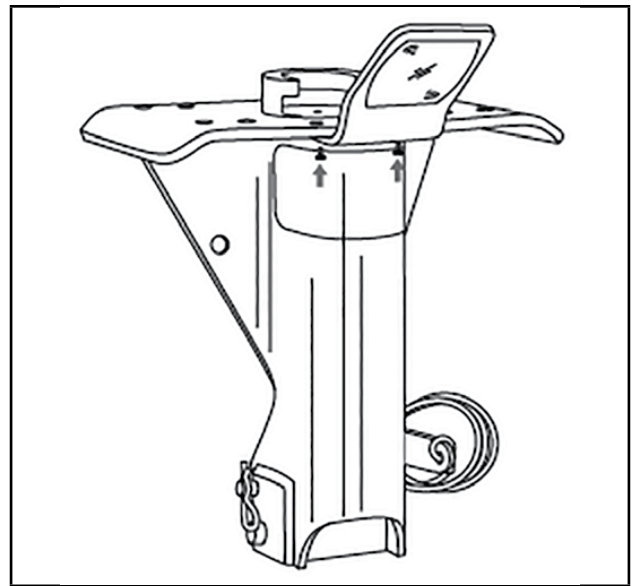

Figure 6.15
- Rotate the handle to this position (See Figure 6.15) and raise the trailer off the ball.
Install the safety pin and clip. (See Figure 6.15.)